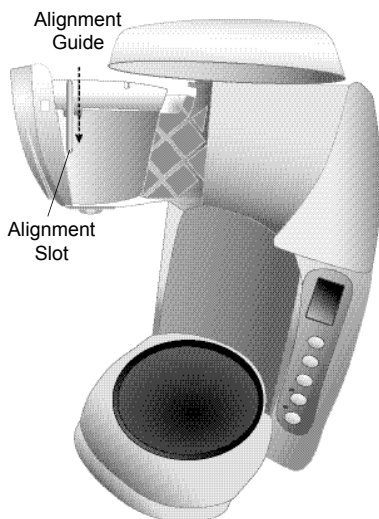

Figure 3
5. Open Swing Out Filter Basket on Coffee Maker (Figure 3), and place the Filter Holder and Removable Filter into the Swing Out Filter Basket.